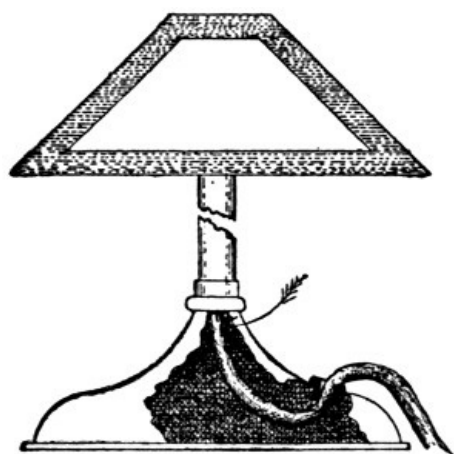

FIGURE 216.
*Table Lamps.*—The table lamp is a small device, but it causes a great deal of annoyance and trouble. The bottom of the lamp should be enclosed with metal, especially if there are any splices. The stem where the wire enters should be well reamed out (see the arrow in Figure 216) and there should be a strong well-fastened bushing where the wire leaves the lamp. The hard-rubber bushings which come with the common table lamps do not remain in place very long and are frequently broken or lost. Stage cable is generally required upon the stage, but it is customary, in connection with these lamps, to allow a good grade of reinforced cord or even fine silk-covered cord, provided it is not long enough to trail on the floor where it might be stepped upon. The glass shades which are often called for in connection with the lamps also cause much trouble;